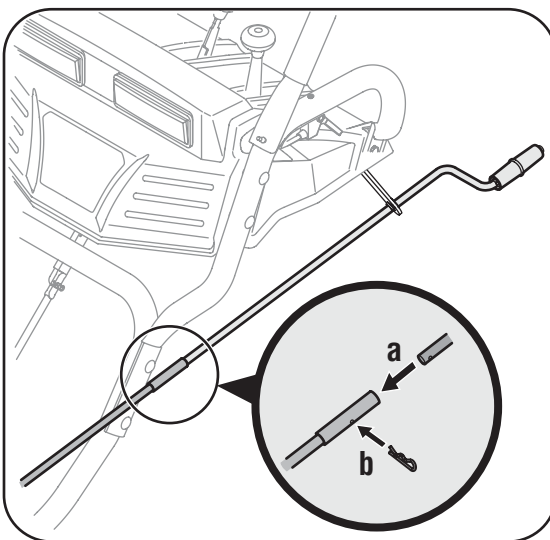

Figure 3-3
- Remove the hairpin clip from the upper chute crank and slide the upper chute crank into the lower chute crank. A pair of pliers may help in this job. See Figure 3-3.
- Align the two holes on both chute cranks. See Figure 3-3.